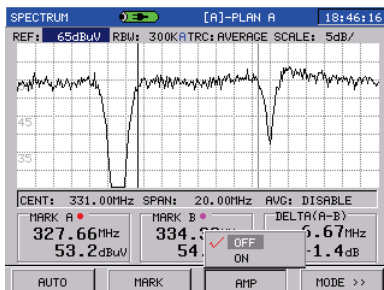
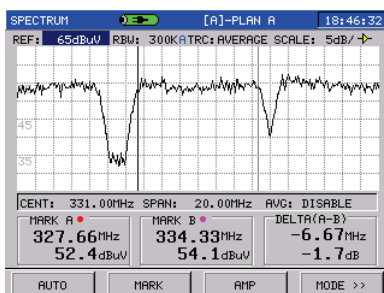

Figure 3-3-3
Figure 3-3-4
**AMP(F3)**: Press AMP key, select **ON/OFF** to open or close the amplifier as Figure3-3-3. If the amplifier is open, icon will be displayed at information column above the graph as Figure3-3-4.